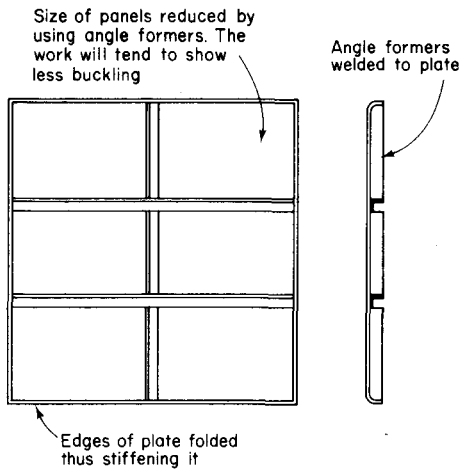

Fig. 4.138 Stiffened sheet-metal panel
**Stiffening of sheet metal.** When sheet metal is used in large panels it tends to buckle because of its lack of strength during bending. Much of this buckling may be prevented by using stiffeners to reduce the size of the unsupported metal. Angle formers are often used as stiffeners but other structural shapes are used. Fig. 4.138 shows an example of a stiffened panel.